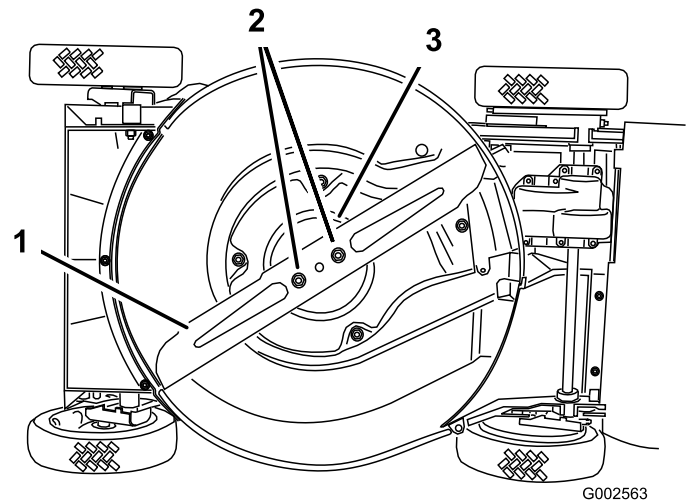

Figure 29
4. Tip the mower onto its **right** side (Figure 29).
Grasp the end of the blade using a rag or a thickly padded glove. Remove the blade nuts, the anti-scalp cup, and the blade (Figure 29).
5. Remove 2 blade nuts, the anti-scalp cup, and the blade (Figure 29).